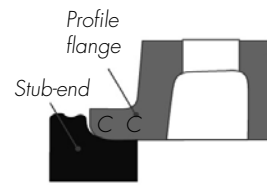

Figure 2
- II. The flange face C-C (see Fig. 2) should be in full contact all around the circumference with the upper face of the stub-end to avoid fulcrum effect which will lead to leaking and even breaking of the flange itself while torquing the bolts.